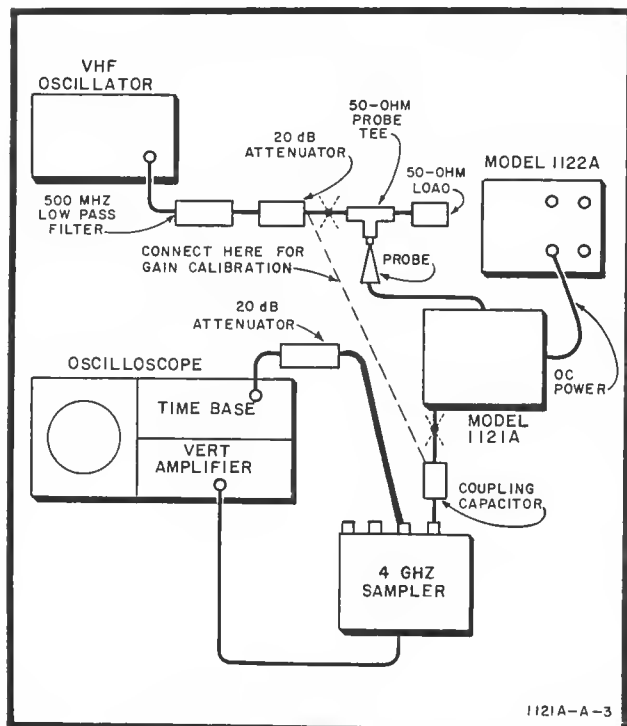

Figure 7. High Frequency Test Setup
- a. Connect equipment for gain calibration as shown in Figure 7.
- e. Set up equipment for test as shown in Figure 7.